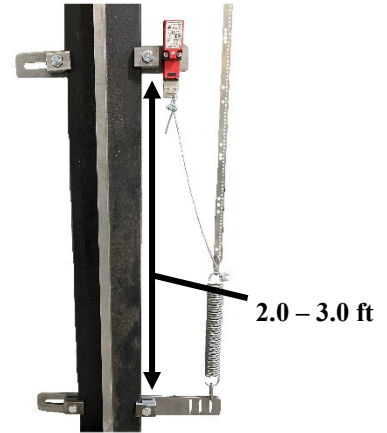

Figure 26: Tape Break Switch Assembly
12. Connect the supplied wire rope, from the pull tab key to the top of the tension spring using the supplied wire clamp. Leave some slack to allow key to be pulled. See Figure 26